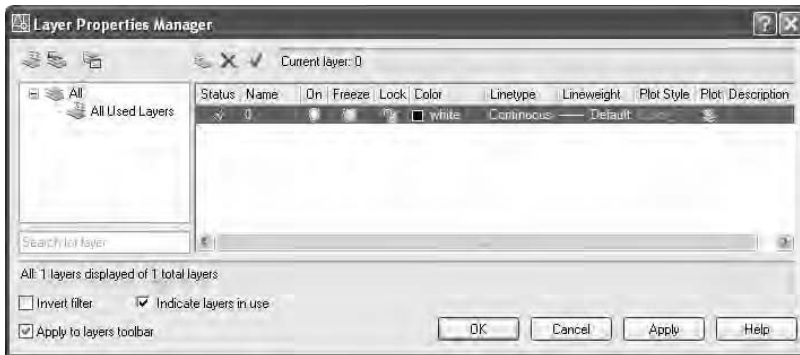

FIGURE 6.3: The Layer Properties Manager dialog box
2. Click the Layer Properties Manager button on the left end of the Layers toolbar to open the Layer Properties Manager dialog box (see Figure 6.3). Notice the large open area in the middle right of the dialog box with the 0 layer listed at the top. This is called the Layer List box. All the layers in a drawing are listed here, along with their states and properties. For `Cabin5b`, there is only one layer so far.